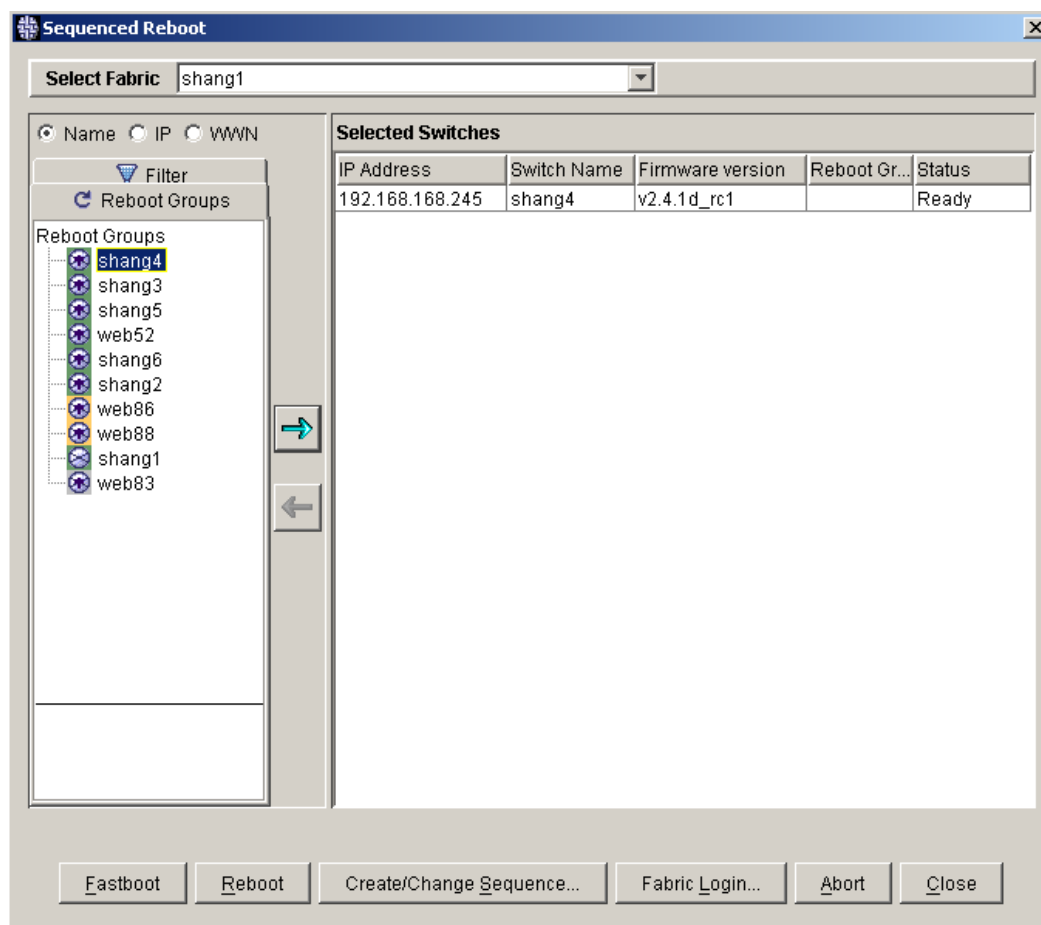

Figure 9-11 Sequenced Reboot Window
- Select the Login Setup button from the Sequenced Reboot dialog box, as shown in Figure 9-11 on page 9-9.
The Sequenced Reboot window is shown in Figure 9-11.